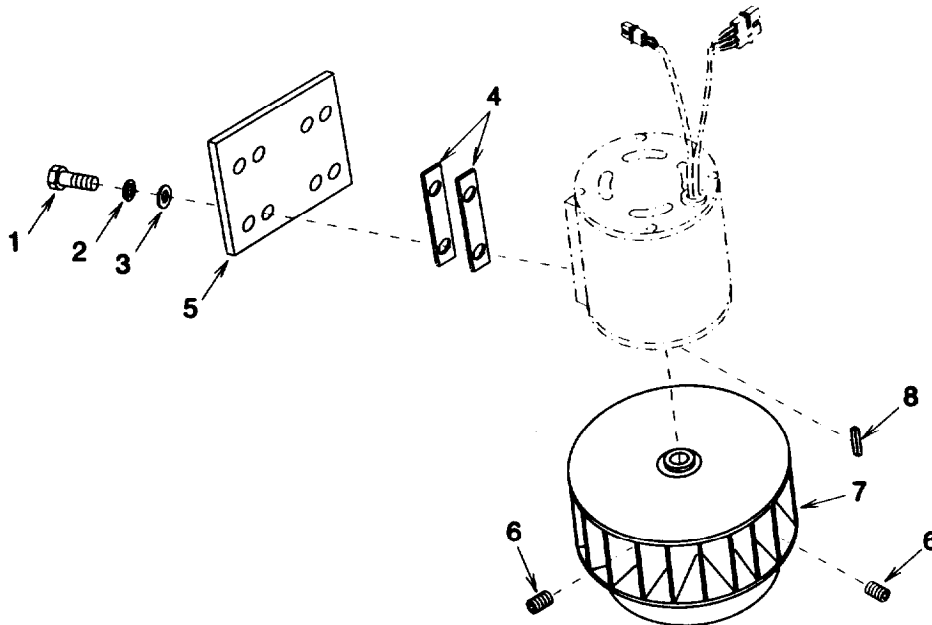
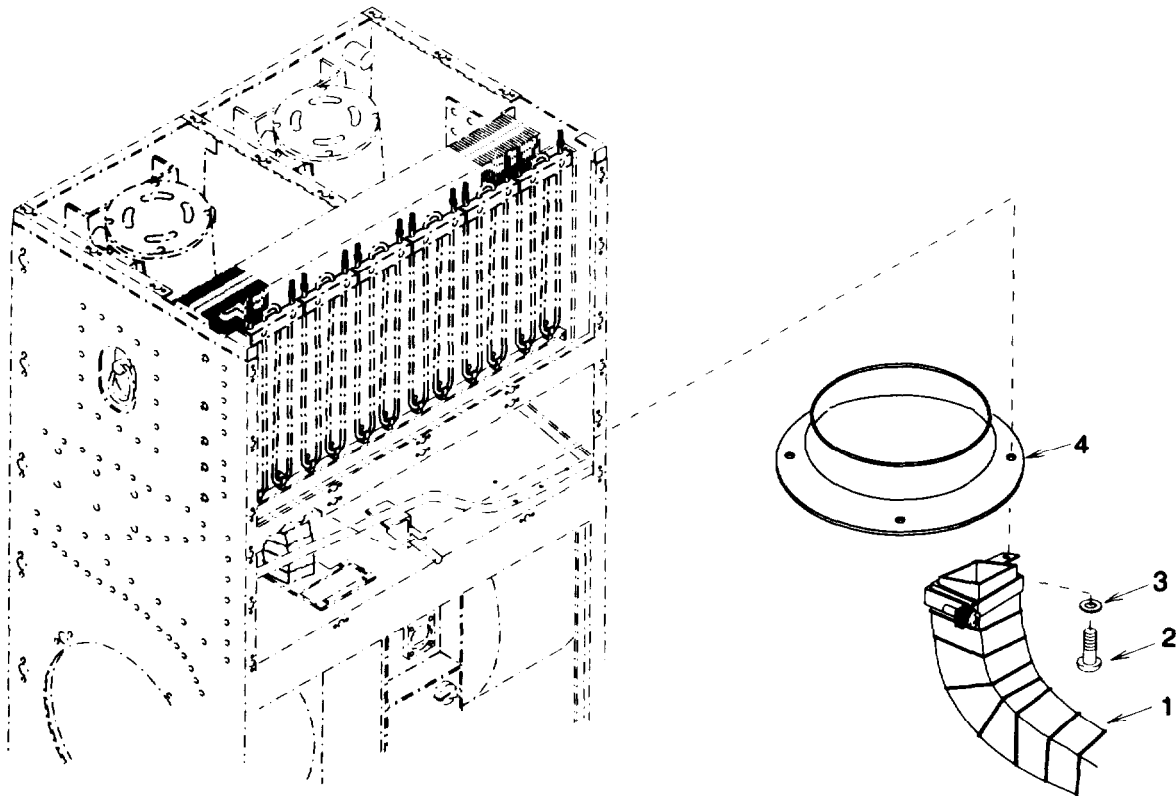

Figure 3-52. Evaporator Fan and Motor Assembly.
Figure 3-53. Inlet Bell
- (3) Note rotation of fan (3) and remove four screws (4), lock washers (5), flat washers (6), and motor fan assembly (7). Discard lock washers.
- (4) Remove four screws (1) Figure 3-52, lock washers (2), flat washers (3), shims (4), and motor plate (5). Discard lock washers.
- (5) Loosen two setscrews (6), remove fan (7), and key (8).
- (6) Note mounting location of collar assembly (1) Figure 3-53 and remove four screws (2), flat washers (3), collar assembly (1), and inlet bell (4).
- (1) Install inlet bell (4) Figure 3-53, on collar assembly (1) located as noted during removal, four screws (2), and flat washers (3).
- (2) Install key (8) Figure 3-52, fan (7), and tighten two set screws (6).
- (3) Install four shims (4), motor plate (5), four screws (1), new lock washers (2), and flat washers (3).
- (5) Check that fan (3) is centered on inlet bell (4) Figure 3-53. If it is not, loosen mounting hardware and adjust as necessary. Retighten mounting hardware. If front to rear adjustment is required, loosen mounting hardware and add or remove shims (4) Figure 3-52 as necessary.
- (6) Loosen two setscrews (6), and slip fan (7) down so that there is 0.06 to 0.08 in. (0.15 to 0.20 cm) clearance between fan and inlet bell (4) Figure 3-53. Tighten setscrews.